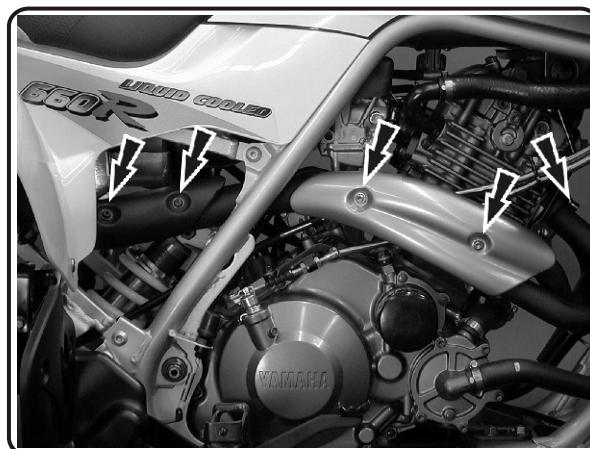

Fig. 2
- 2 Unbolt and remove stock heat shields and front header. (See Fig.2)